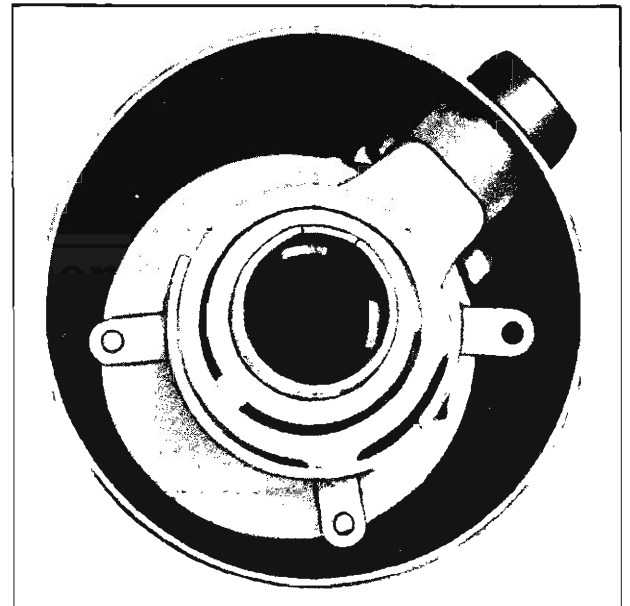

Fig. 30—Locking Plate Installed
8. Lubriplate inner diameter of shifter lever support housing and install on upper end of mast jacket assembly, fitting keyway in housing over key on shifter tube. Depress shifter tube against spring tension and install locking plate and flat washer (spacer). Be certain to engage tang of locking plate into slot in mast jacket (fig. 30).
4. Install lock plate (fig. 30).